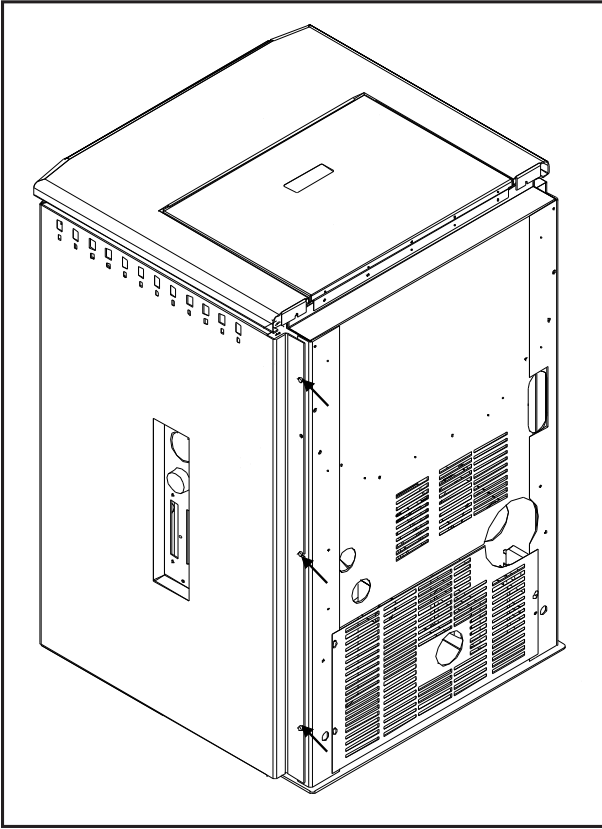

Figure 7
1. Loosen the three (3) screws from both sides on the back of the appliance (see Figure 7).
To remove your new stove from its pallet you must remove both cabinet sides. This is done by the following steps (refer to Figures 7, 8, and 9 in the section Specifications - Safety Devices):